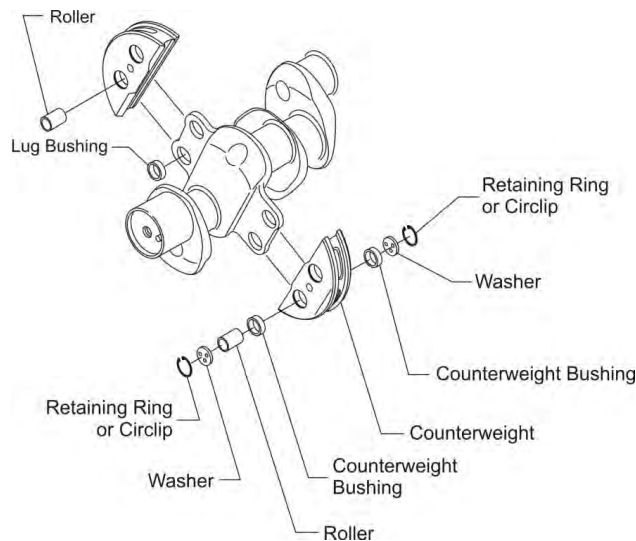

Figure 22
NOTICE: Counterweights (Figure 22) of a specific order are installed in specified locations identified in the latest revision of Service Instruction No. SI-1012.
- (2) Remove the two retaining rings (or circlips), two washers, and matched roller pair (Figure 22) from each counterweight. Discard the retaining rings and washers regardless of condition.